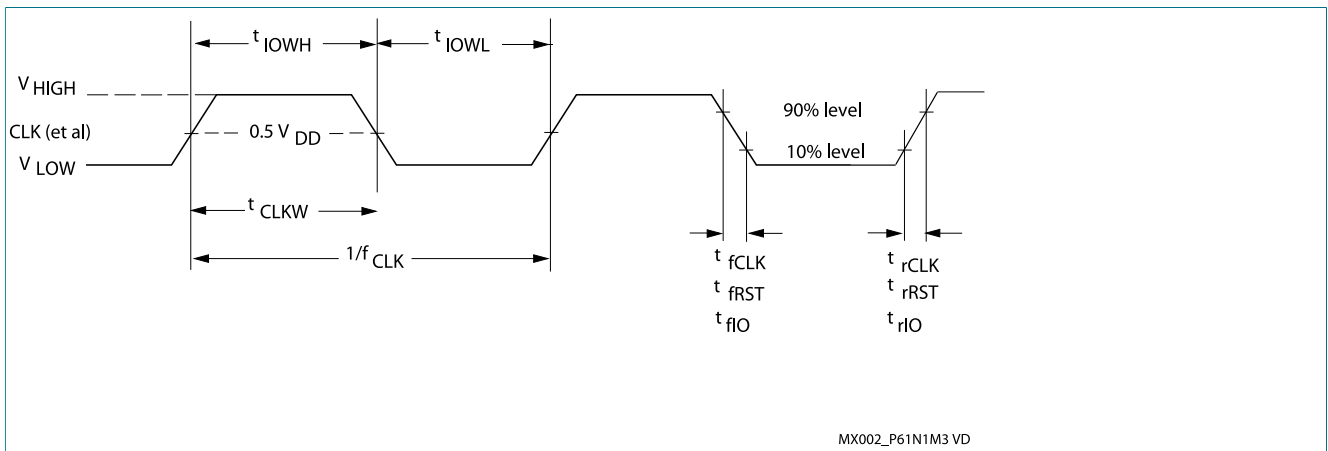

Figure 9. External clock drive and AC test timing reference points of CLK, RST\_N, IO1, IO2 and IO3 (see [1] and [2])
- [5] During AC testing the inputs CLK, RST\_N, IO1, IO2 and IO3 are driven at 0 V to +0.3 V for a LOW input level and at  $V_{DD} - 0.3$  V to  $V_{DD}$  for a HIGH input level. Clock period and signal pulse (duty cycle) timing is measured at 50% of  $V_{DD}$  (see Figure 9).